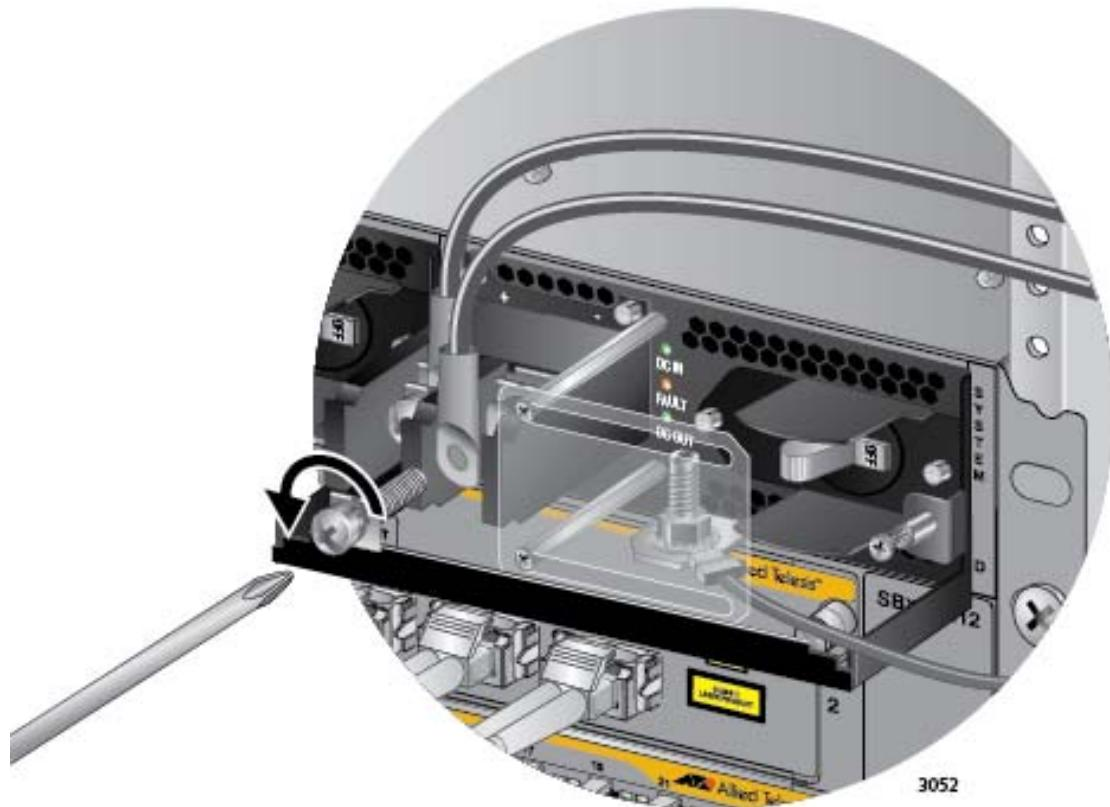

Figure 140. Removing the Negative Lead Wire
5. Use a #3 screwdriver to remove the negative (-) lead wire from the terminal block. The negative lead wire is on the right. Refer to Figure 140 on page 211.